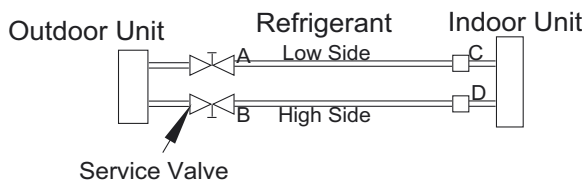

Fig. 26 – Service Valve
1. Completely tighten flare nuts A, B, C, D, connect manifold gage charge hose to a charge port of the low side service valve (see Fig. 26).